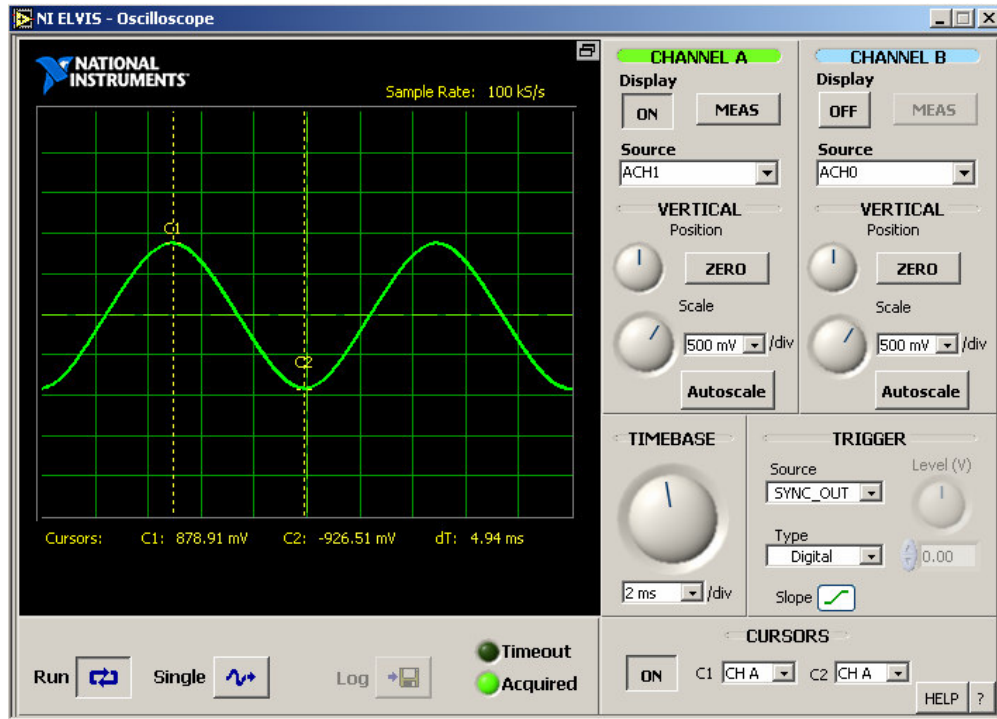

Fig. 13. NI Elvis Oscilloscope showing the input waveform on Channel A.
10. This input signal originates from FUNC_OUT. The corresponding SYNC signal is SYNC_OUT. Hence under in TRIGGER section, select SYNC_OUT option. The output should now appear as shown in figure 13. This is the input signal for our RC circuit.